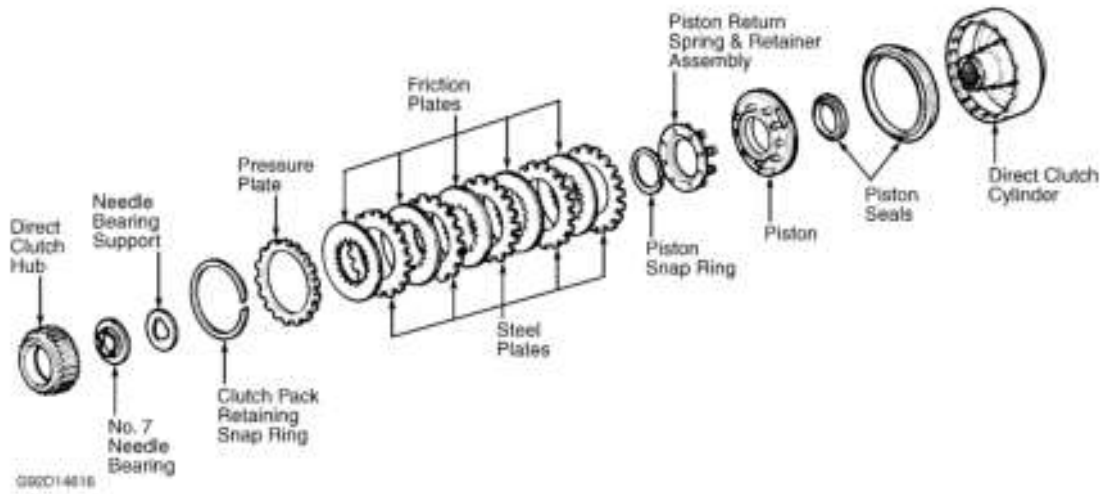

Fig. 33: Exploded View of Direct Clutch Assembly
1. Remove No. 7 direct clutch hub inner needle bearing and bearing support. Using a screwdriver, remove clutch pack selective retaining snap ring and lift out clutch pack. See **Fig. 33**.